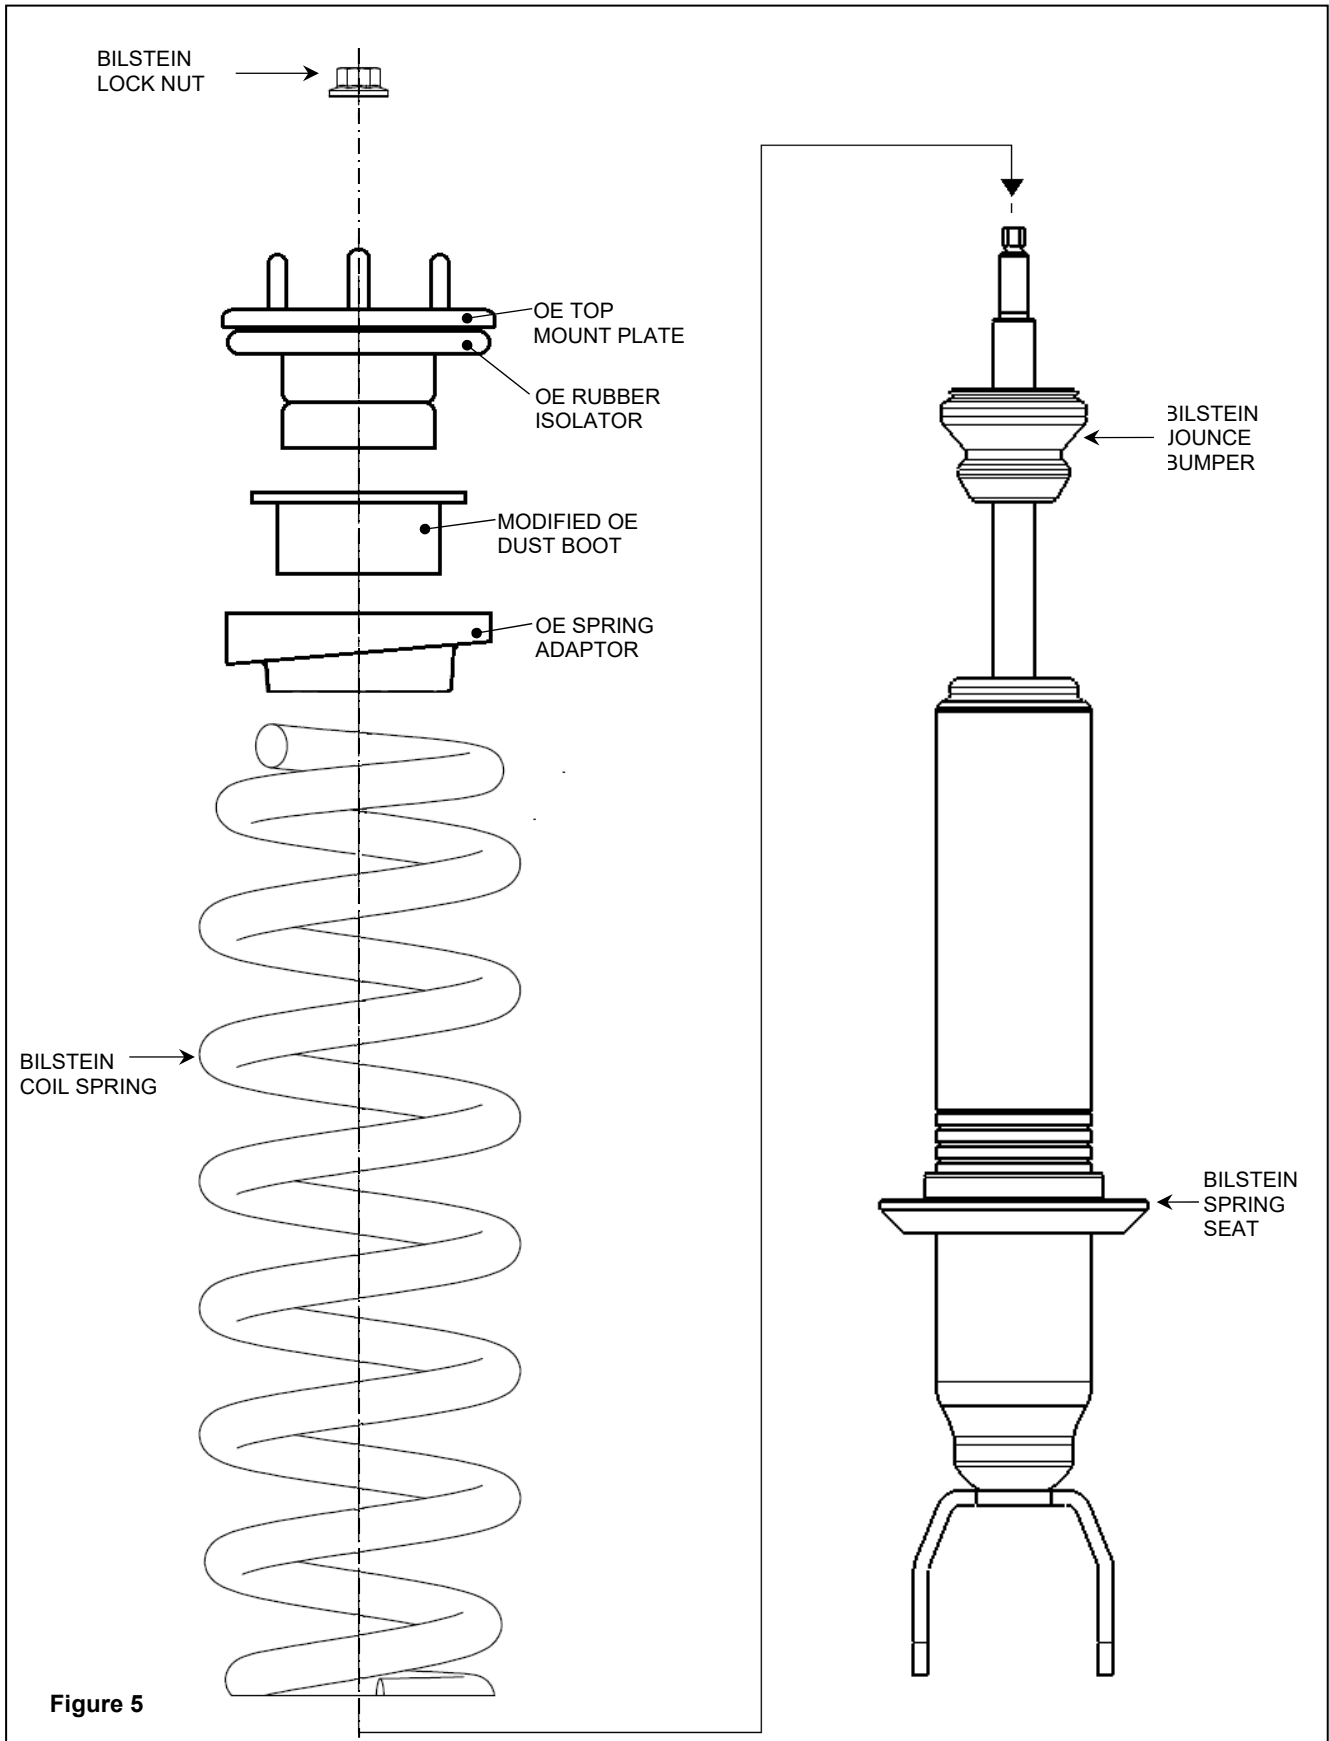

Figure 5
- G. Install the supplied spring seat in the correct orientation onto the new Bilstein shock body as shown in figure 5. Ensure that the groove inside the spring seat fits over the circlip on the shock body [see page 2 (DETAIL A)]. Improper installation will cause permanent damage to the shock.
- H. Install the supplied jounce bumper onto the piston rod as shown in Figure 5.
- I. Using an appropriate spring compressor, compress the supplied spring and assemble it with the new Bilstein shock. Ensure that the supplied coil spring is installed in the direction shown only. Refer to Figure 5.
- J. Install the OE spring adaptor, modified OE dust boot, and OE top mount plate (including OE rubber isolator) over the threaded stem on the new Bilstein shock and on top of the spring. Refer to Figure 5.